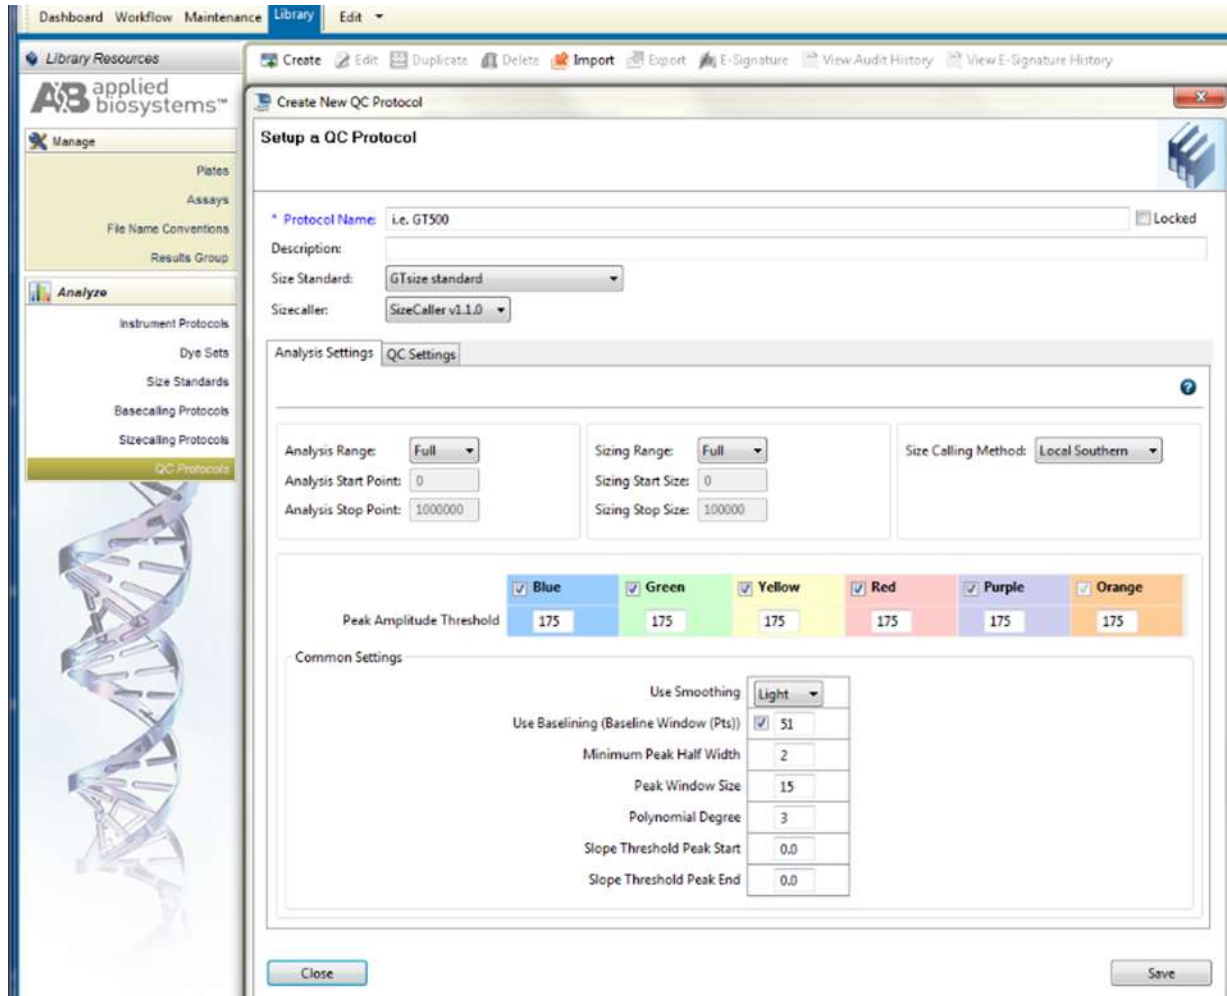

Figure 7. Screenshot for the “Create New QC Protocol” window on Applied Biosystems 3500 Data Collection software
- c) select “Create” (Figure 7)
Users can select settings as shown in the Figure 7 or alternatively may define these settings based on internal validation condition for GT HapScreen® DMD on the Applied Biosystems® 3500/3500xL Genetic Analyzer.